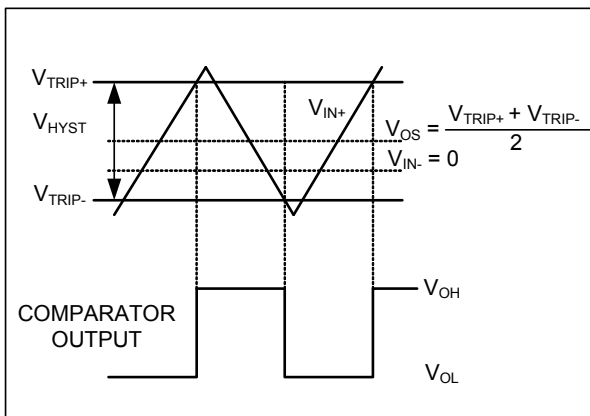

Figure 1. Input and Output Waveform, Non-inverting Input Varied
- VOS is defined as the center of the input-referred hysteresis zone. See Figure 1.
- The input-referred trip points are the extremities of the differential input voltage required to make the comparator output change state. The difference between the upper and lower trip points is equal to the width of the input-referred hysteresis zone. See Figure 1.
The hysteresis in a comparator creates two trip points: one for the rising input voltage and one for the falling input voltage (Figure 1). The difference between the trip points is the hysteresis. The average of the trip points is the offset voltage. When the comparator's input voltages are equal, the hysteresis effectively causes one comparator input voltage to move quickly past the other, thus taking the input out of the region where oscillation occurs. Standard comparators require hysteresis to be added with external resistors. The SGM8740's fixed internal hysteresis eliminates these resistors. To increase hysteresis and noise margin even more, add positive feedback with two resistors as a voltage divider from the output to the non-inverting input.
Figure 1 illustrates the case where IN- is fixed and IN+ is varied. If the inputs were reversed, the figure would look the same, except the output would be inverted.